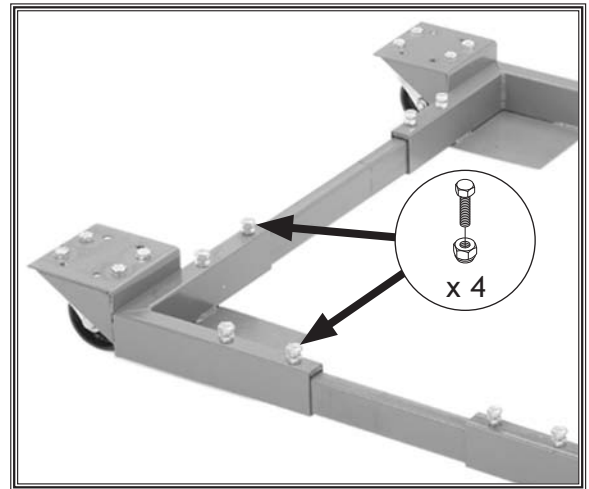

Figure 11. Rails secured to fixed corner brackets.
8. Secure each corner bracket to two rails with (4) M8-1.25 x 25 hex bolts, and 8mm lock nuts, as shown in Figure 11.
Each side rail-to-corner bracket connection must have a minimum of two hex bolts installed, making a total of four bolts at each corner, as shown in Figure 11. Do not load a machine onto the base until all of these bolts have been installed and tightened. Loading a machine onto the base before completing assembly can result in the machine falling or tipping over, resulting in serious personal injury.